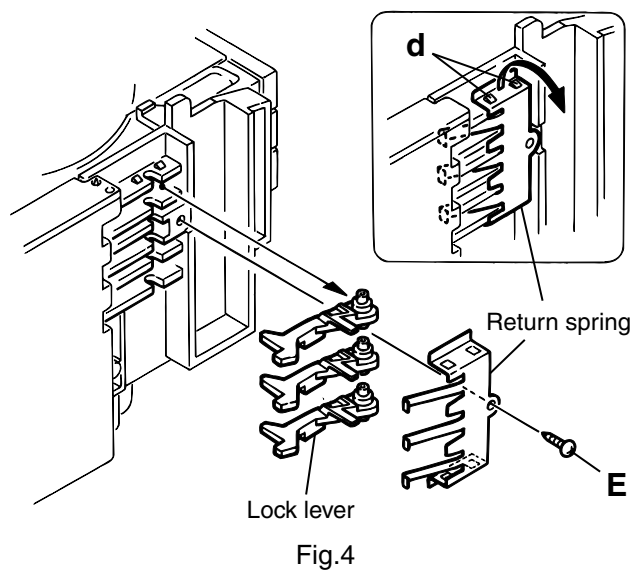

Fig.4
8. From the left side face of the chassis assembly, remove the one screw **E** retaining both of the return spring and lock lever(See Fig. 4).
9. By removing the pawl at the section "d" fixing the return spring, dismount the return spring(See Fig.4).
- 10.Remove the three lock levers(See Fig.4).